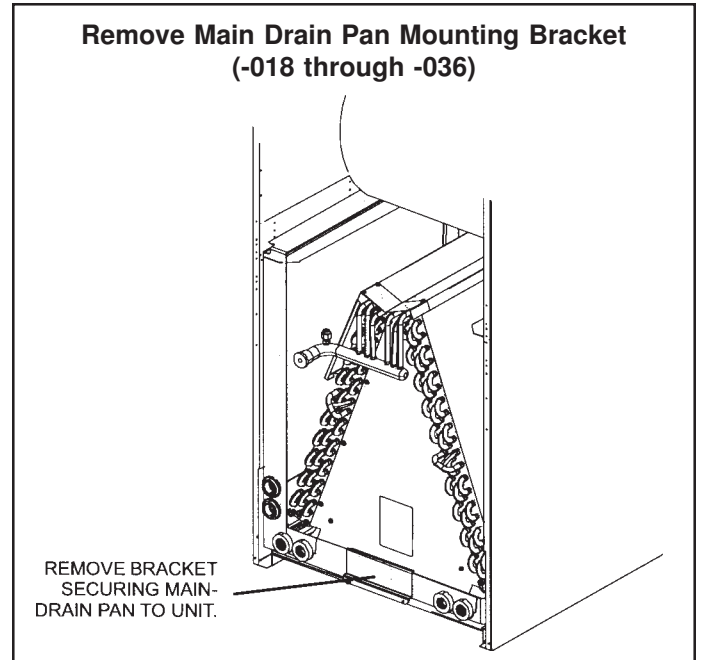

Figure 4
2. Remove bracket(s) securing pan(s) to unit as illustrated in Figures 4 and 5.